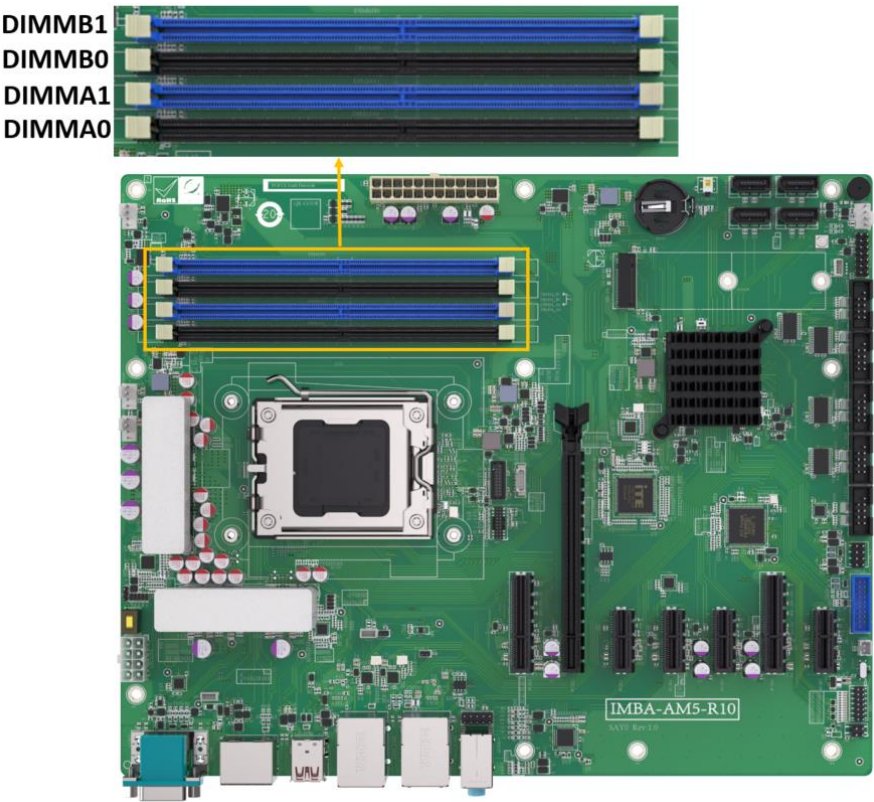

Figure 4-25: DDR5 DIMM Sockets Location
- CN Location:** See **Figure 4-25**